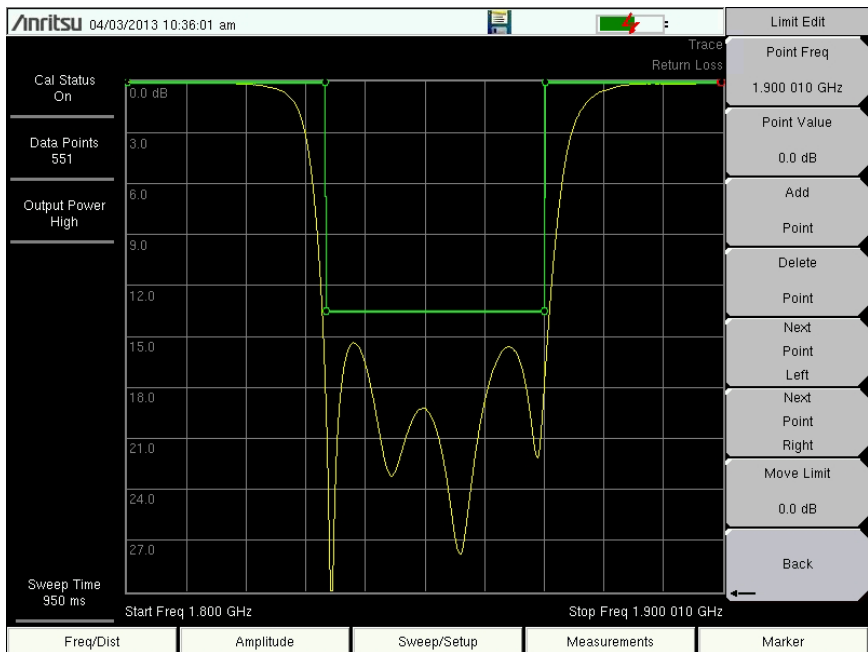

Figure 2-3. Segmented Limit Lines
1. Press **Shift** and then **Limit (6)** to enter the Limit menu.
3. Press the **Multi-Segment Edit** key. The default limit line has two points. Add points as needed. The limit line example shown in Figure 2-3 on page 2-7 has 3 segments requiring 6 points.